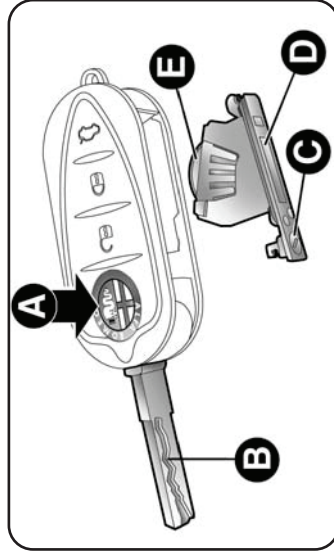

fig. 18 A0K0051m
- press A button fig. 18 and open out the B metal insert; turn C screw to **off** using a small point screwdriver;